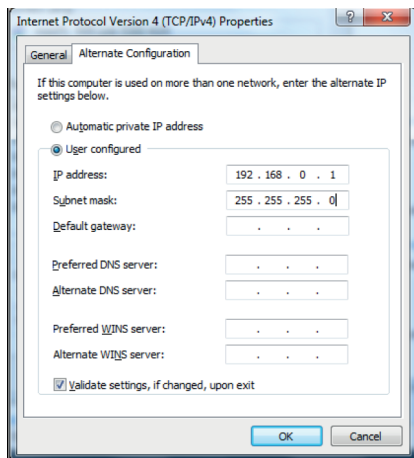

Fig. 16 Internet Protocol Version 4 (TCP/IPv4) - User configured IP address
- ➡ 6. Now enter a user-defined IP address for your PC. Note that the network portion of the address must be identical to the network portion of the IP address of the thermoIMAGER TIM NetPCQ, that is, it must be 192.168.0. However, the IP address of the device portion must be different from the thermoIMAGER TIM NetPCQ address (IP address 192.168.0.100); for example, use IP address 192.168.0.1, see Fig. 16.